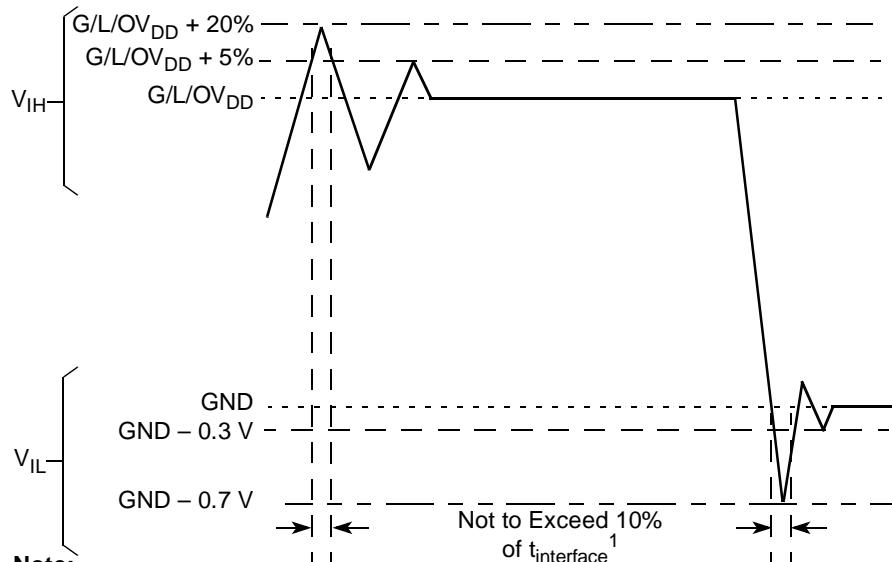

Figure 2. Overshoot/Uncertain Voltage for $GV_{DD}/OV_{DD}/LV_{DD}$
- ⁵ (M,L,O)V_{IN} and MV_{REF} may overshoot/undershoot to a voltage and for a maximum duration as shown in Figure 2.
Figure 2 shows the undershoot and overshoot voltages at the interfaces of the MPC8347E.